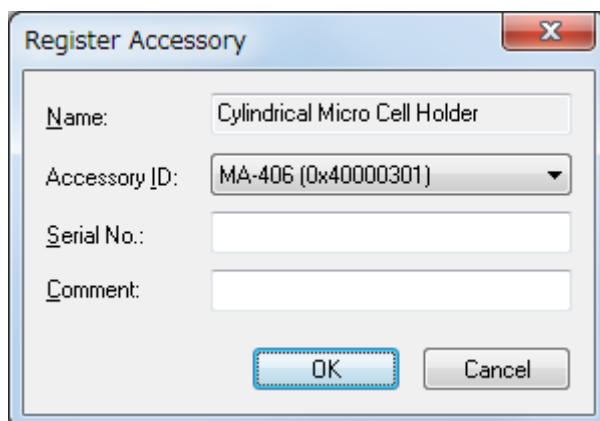

Figure 3.14 [Register Accessory] dialog box
- (2) Click the <Add...> button to display the dialog box in Fig. 3.14.